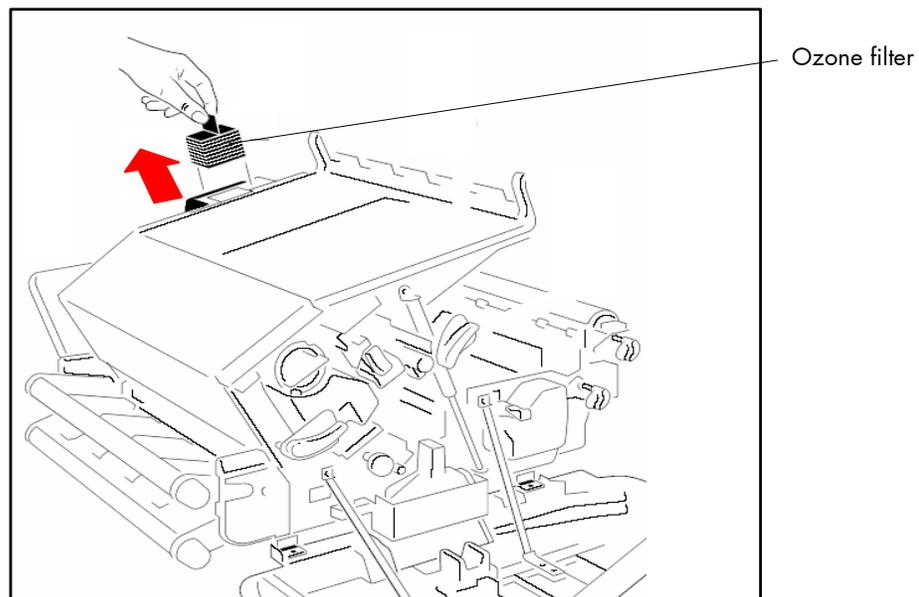

Fig. 7.5.a Removing the old ozone filter
4. Insert the new ozone filter in the opening of the printer. (Compare figure 7.5.a.)